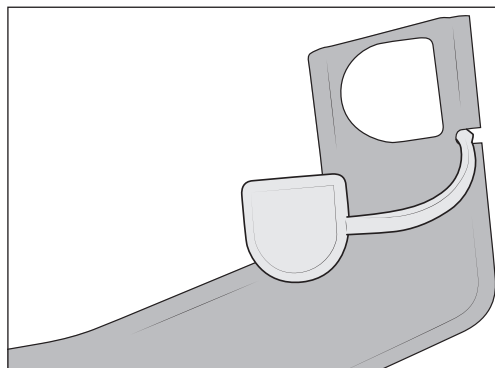

Figure 35
- Slide winch plug cap into slot on side of winch plate next to D shaped cutout as shown (fig. 35).